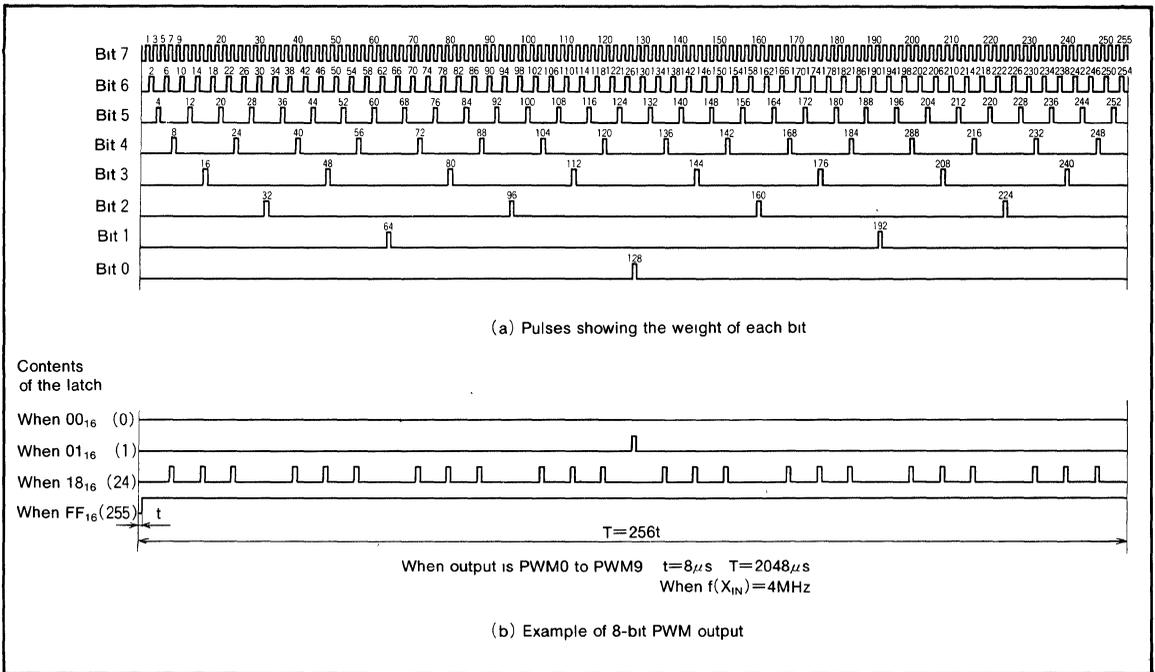

Fig. 20 8-bit PWM timing diagram
(4) Operation of the 8-bit PWMs
The timing diagram of the ten 8-bit PWMs (PWM0—PWM9) is shown in Figure 20. One period (T) is composed of 256 (2⁸) segments.
There are eight different pulse types configured from bits 0 to 7 representing the significance of each bit. These are output within one period in the circuit internal section. Refer to Figure 20 (a).
Eight different pulses can be output from the PWM. These can be selected by bits 0 through 7. Depending on the content of the 8-bit PWM latch, pulses from 7 to 0 is selected. The PWM output is the difference of the sum of each of these pulses. Several examples are shown in Figure 20 (b). Changes in the contents of the PWM latch allows the selection of 256 lengths of high-level area outputs varying from 0/256 to 255/256. An length of entirely high-level output cannot be output, i.e. 256/256.